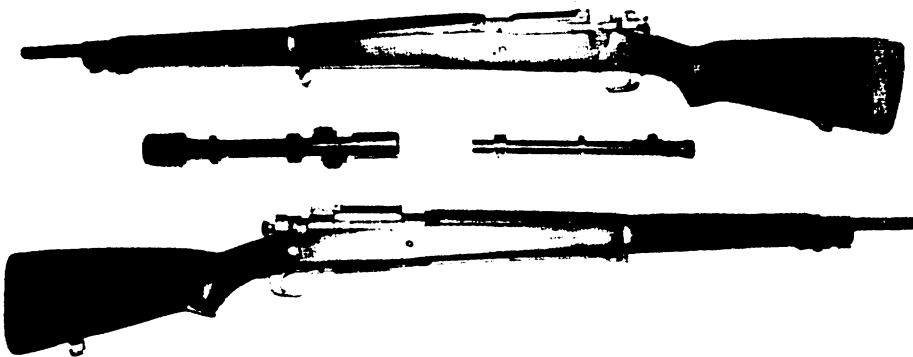

Figure 10
10. Identify the M1903A4 (fig. 10).